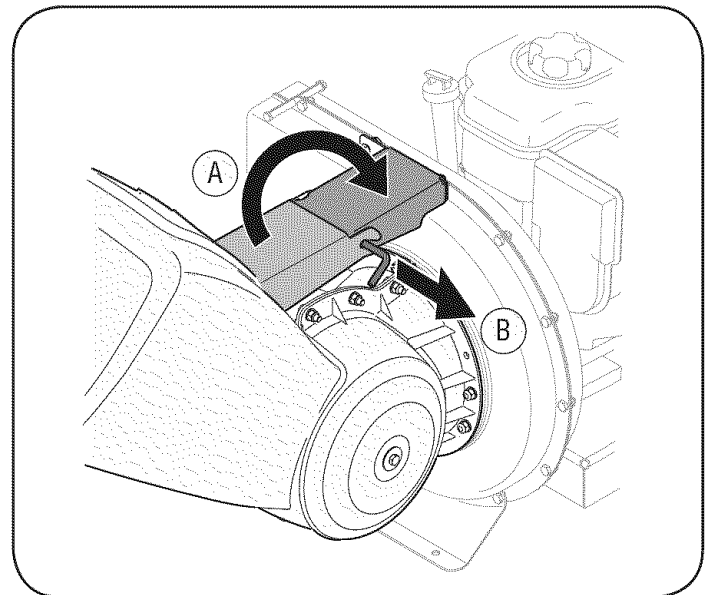

Figure 2
- b. Slide the release rod out slightly to hook the hopper bracket onto the rod. See Figure 2.